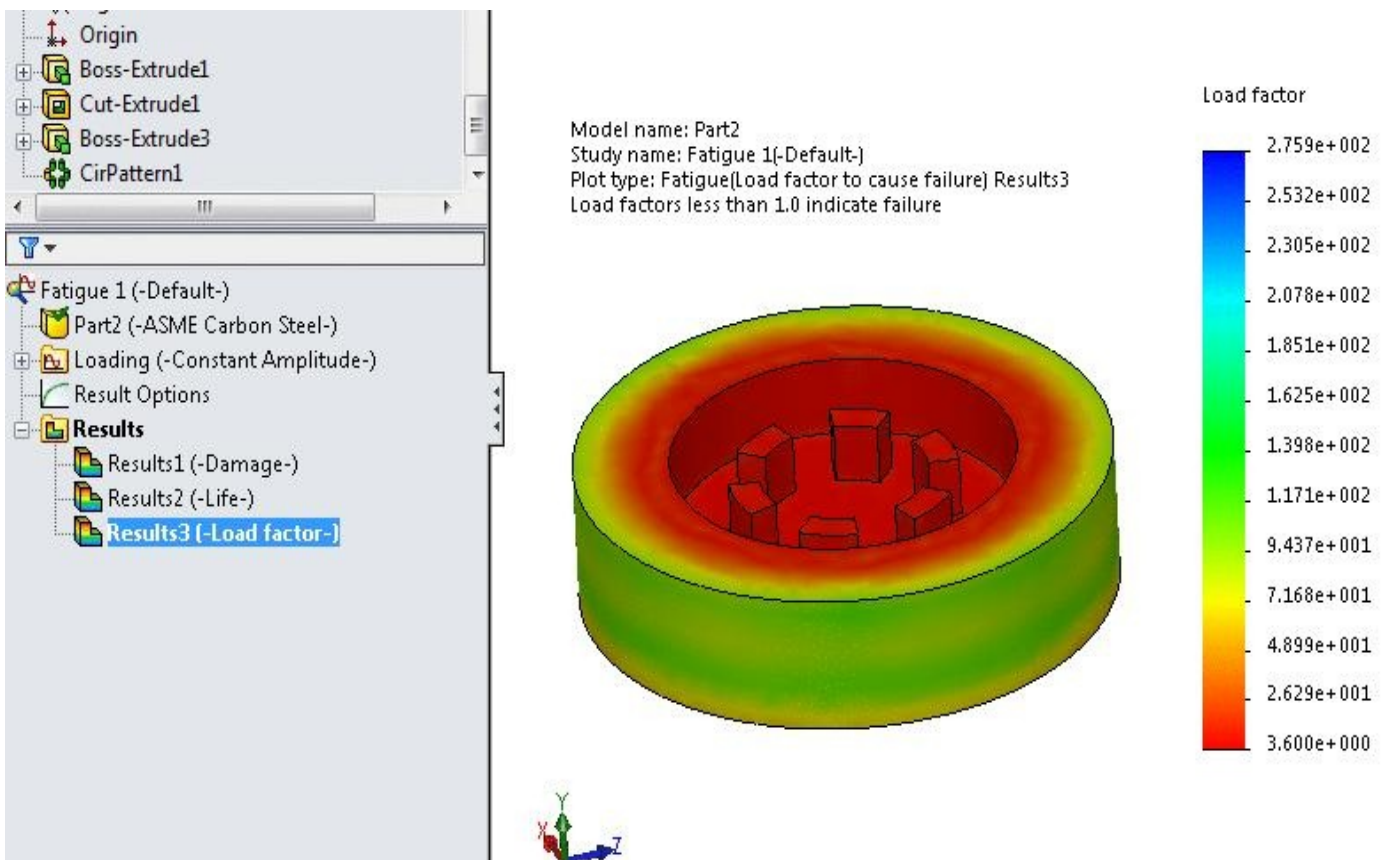

Figure-19. Factor of safety fatigue
- Click on the **Load Factor** radio button and click on the **OK** button from the **PropertyManager**. The load factor plot (in other words, **Factor of Safety** for fatigue) will be displayed; refer to Figure-19.